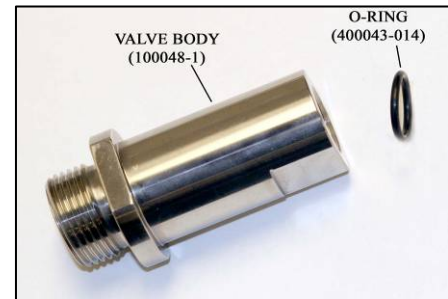

Figure 1
6. Remove the O-Ring (400043-014) from the outlet end of the Valve Body using a small straightened paperclip or similar tool. **See Figure 1.**